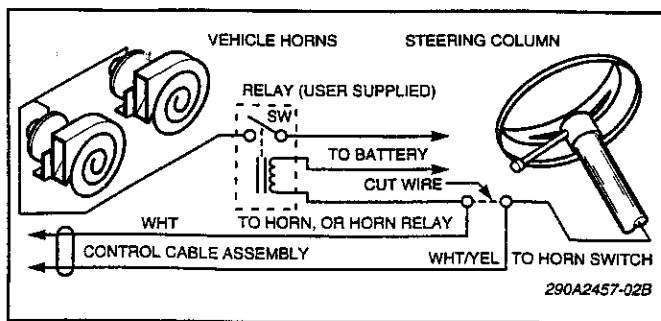

Figure 3-4. Horn Ring Connections.
2. See figure 3-4. Splice the white/yellow control cable wire (P5, pin 7) to the horn ring side of
4. Obtain a SPST relay of sufficient contact current capacity to activate the vehicle horn. Refer to figure 3-4 while performing the following steps.